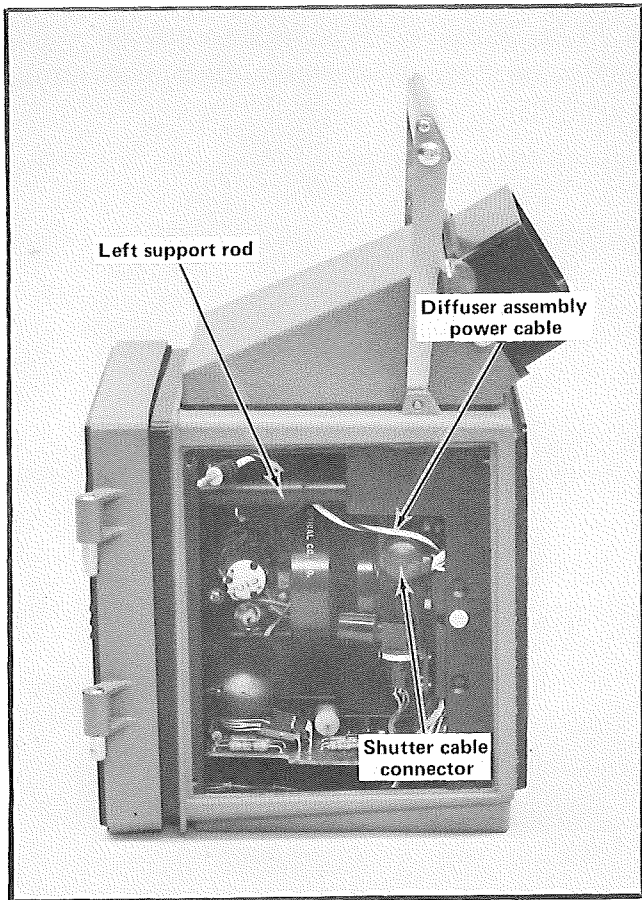

Fig. 2-5. Correct routing for the diffuser assembly power cable when the Writing Speed Enhancer is installed on a camera having a battery pack.
4. Route the diffuser assembly power cable through the camera in the manner shown in Fig. 2-5.